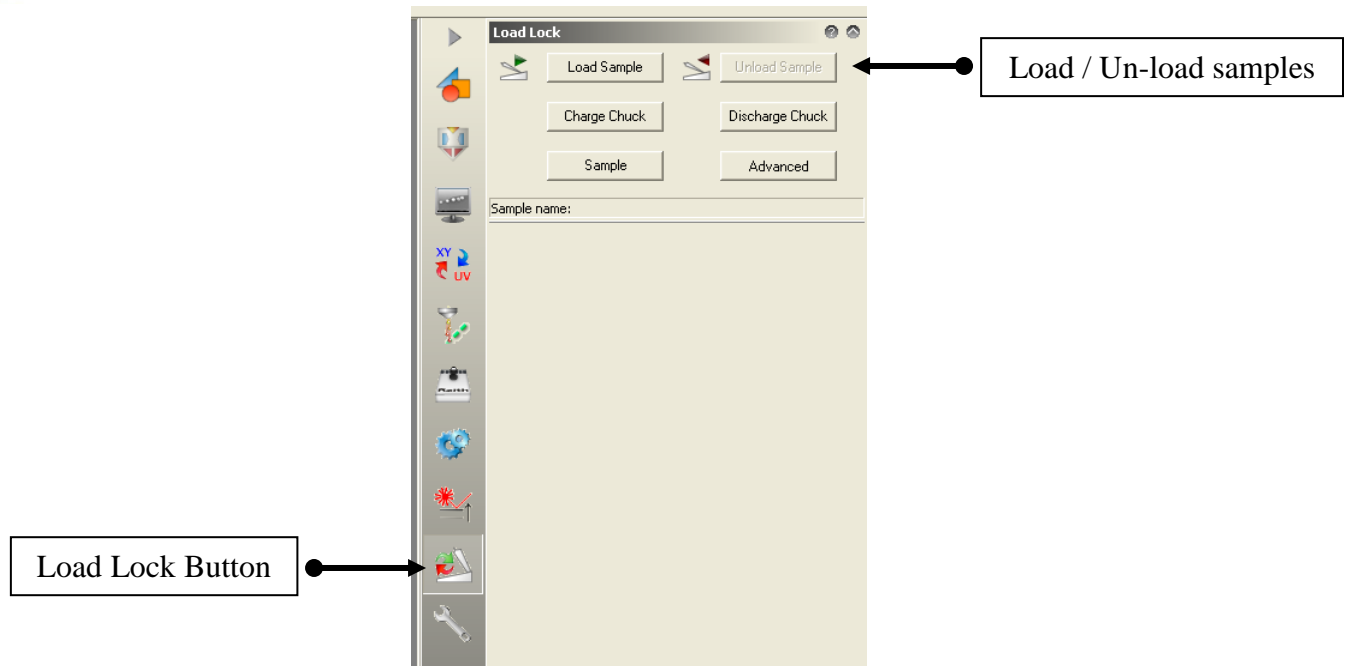

Figure 8 Loading / Un-loading samples
- In order to begin the loading process, enable the Raith window. Click on the **Load Lock** icon followed by the **Load Sample** button in the right hand vertical panel as shown in Fig. 8. There are a number of important icons on this panel whose names can be revealed by mouse over.